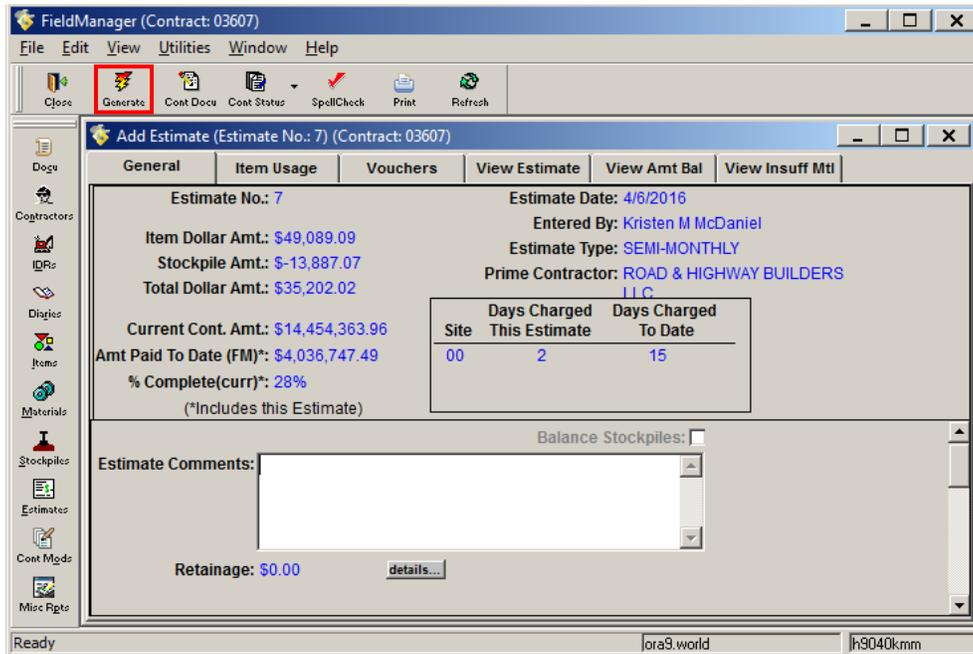

Figure 11-12. Add Estimate Tab Window
1. Click **Generate** on the Window Toolbar (Figure 11-12).